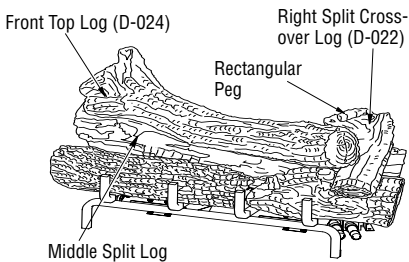

Figure 28 - Installing Large Middle Log
7. For SouthernComfort logs, find the front top log (D-024). See **Figure 28**. The left end of this log has a square hole that fits over a square peg that is on the top of the middle split log. The right end of this log rests behind the knot on the top of the front right log.